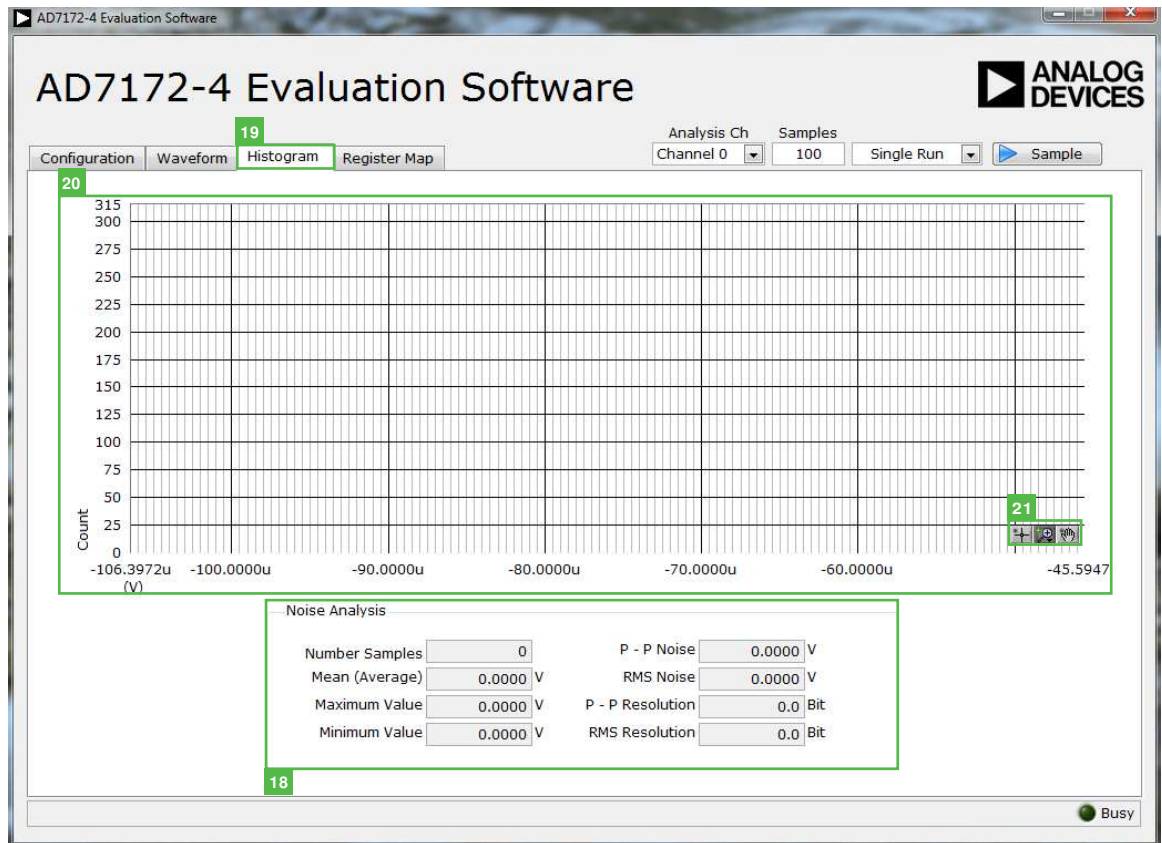

Figure 9. Histogram Tab of the AD7172-4 Evaluation Software
See Figure 9 for the **Histogram** (19) tab.
The data histogram graph (20) shows the number of times each sample of the ADC output occurs. The control toolbar (21) in the histogram graph allows you to zoom in on the data (see Figure 9). Click the x-axis and y-axis to change the scales on the graph (see Figure 9).